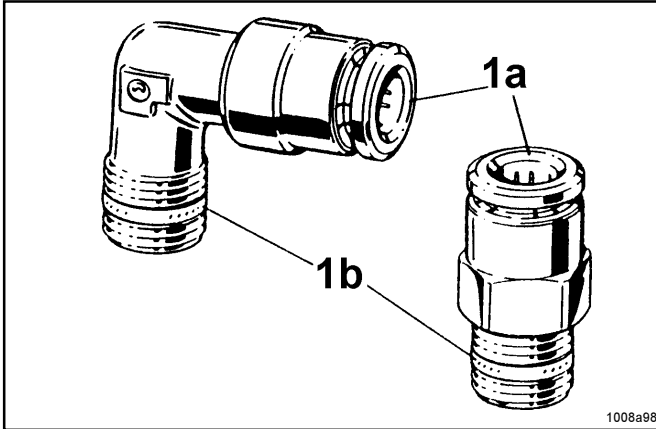

Fig. 24 - Inlet fittings
**Important !** For the inlet fittings use only tube fittings with reinforced collet 1a (Fig. 24) and sealing ring 1b at the thread.